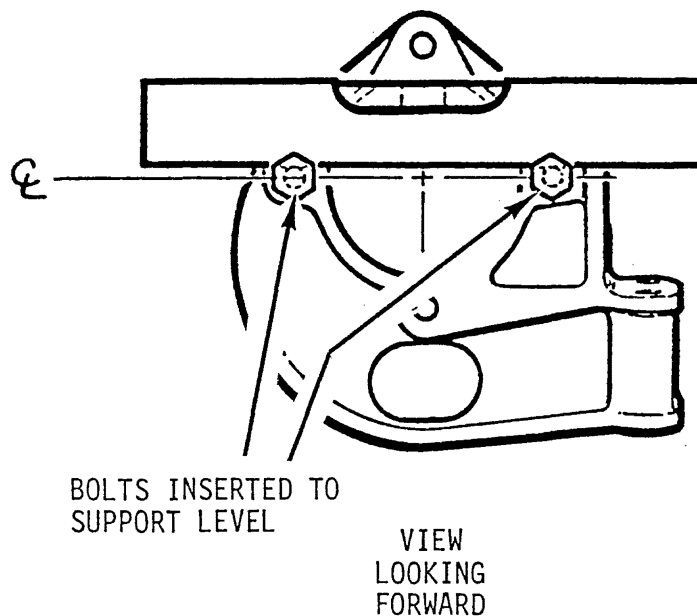

FIGURE 4-2A TAILCONE LATERAL LEVELING
3. Refer to Figure 4-2A. Insert two bolts into horizontal mounting holes in tail rotor gearbox mount casting at aft end of tailcone. Place a bubble level across these bolts and level tailcone horizontally by turning it on the steel tube frame.